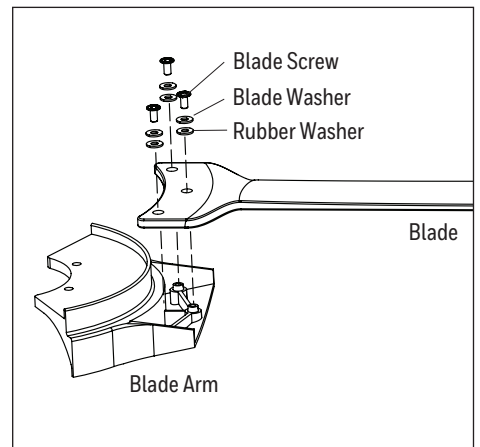

Figure 5.3
3. Partially insert the blade screws along with the blade washers and rubber washers through the blade and into the blade arm. Tighten each blade screw with a Phillips screwdriver (not included), starting with the one in the middle. Repeat this step for the remaining blades and blade arms (Figure 5.3).